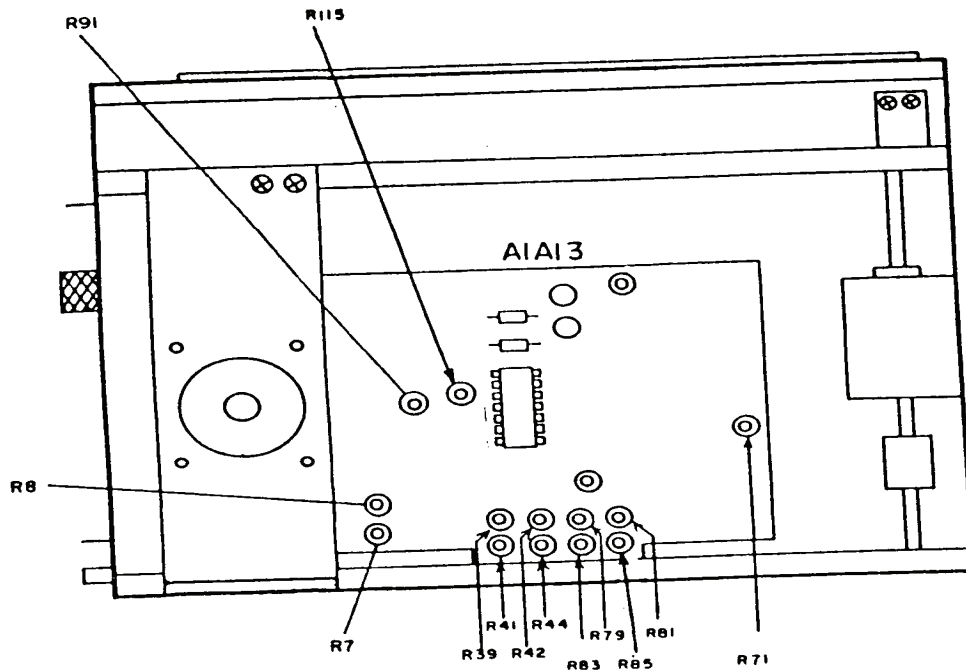

Figure 5. Test instrument - right view.
- (1) Adjust A1A13R44 (fig. 5) for an oscilloscope indication of -10 kHz (R).
- (2) Adjust A1A13R39 (fig. 5) until **FREQ ERROR** meter indicates 10 kHz (R).
- (3) Adjust A1A13R44 (fig. 5) for best in-tolerance condition while repeating **a** (1) through (7) above (R).
- (4) Adjust A1A13R41 (fig. 5) until **FREQ ERROR** meter indicates 4 kHz (R).
- (5) Adjust A1A13R42 (fig. 5) until **FREQ ERROR** meter indicates 1 kHz (R).
- (6) Adjust signal generator amplitude for -107 dBm.
- (7) Set **RCVR WIDE-MID-NARROW** switch to **WIDE**.
- (8) Adjust A1A13R7 (fig. 5) until **INPUT LEVEL** lamp (front panel) just illuminates (R).
- (9) Set **RCVR WIDE-MID-NARROW** switch to **NARROW**. Adjust A1A13R8 (fig. 5) until **INPUT LEVEL** lamp just illuminate (R).
- (10) Set **DEV-PWR** switch to **SIG**. Adjust signal generator amplitude to -25 dBm. Adjust A1A13R91 (fig. 5) until **DEVIATION/WATTS** meter indicates FS (R).
- (11) Repeat (6) through (10) above as necessary.
(1) Adjust A1A13R71 (fig. 5) until **DEVIATION (kHz)** meter indicates zero (R).
(2) Set **GEN-RCVR** switch to **GEN** and adjust A1A13R81 (fig. 5) until **DEVIATION (kHz)** meter indicates zero (R). Set **RCVR-GEN** switch to **RCVR**.
(3) Repeat (1) and (2) above as necessary.
(4) Adjust **VAR** control until measuring receiver indicates **2 kHz**. Adjust A1A13R85 (fig. 5) until **DEVIATION (kHz)** meter indicates **2 kHz** (R).
(5) Adjust **VAR** control until measuring receiver indicates 6 kHz. Adjust A1A13R83 (fig. 5) until **DEVIATION (kHz)** meter indicates **6 kHz** (R).
(6) Adjust **VAR** control until measuring receiver indicates 20 kHz. Adjust A1A13R79 (fig. 5) until **DEVIATION (kHz)** meter indicates **20 kHz** (R).